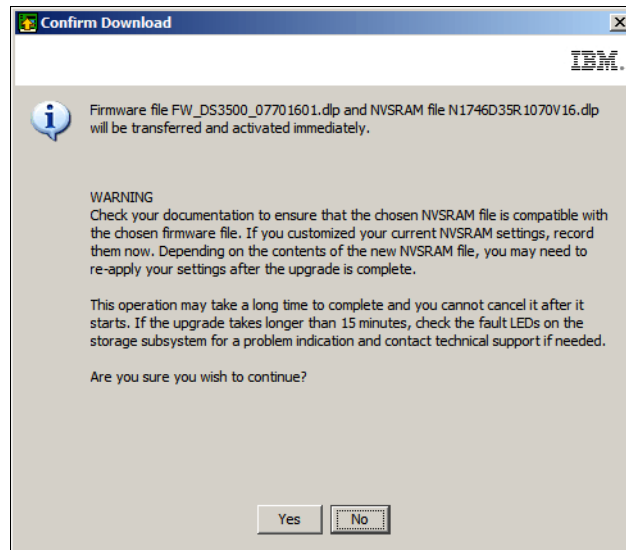

Figure 14-43 Transfer and activate
5. If you want to transfer the firmware and NVSRAM and activate these immediately, then click the **OK** button. You will be asked to confirm that you want to transfer and activate the firmware and NVSRAM immediately. See Figure 14-43 on page 361.